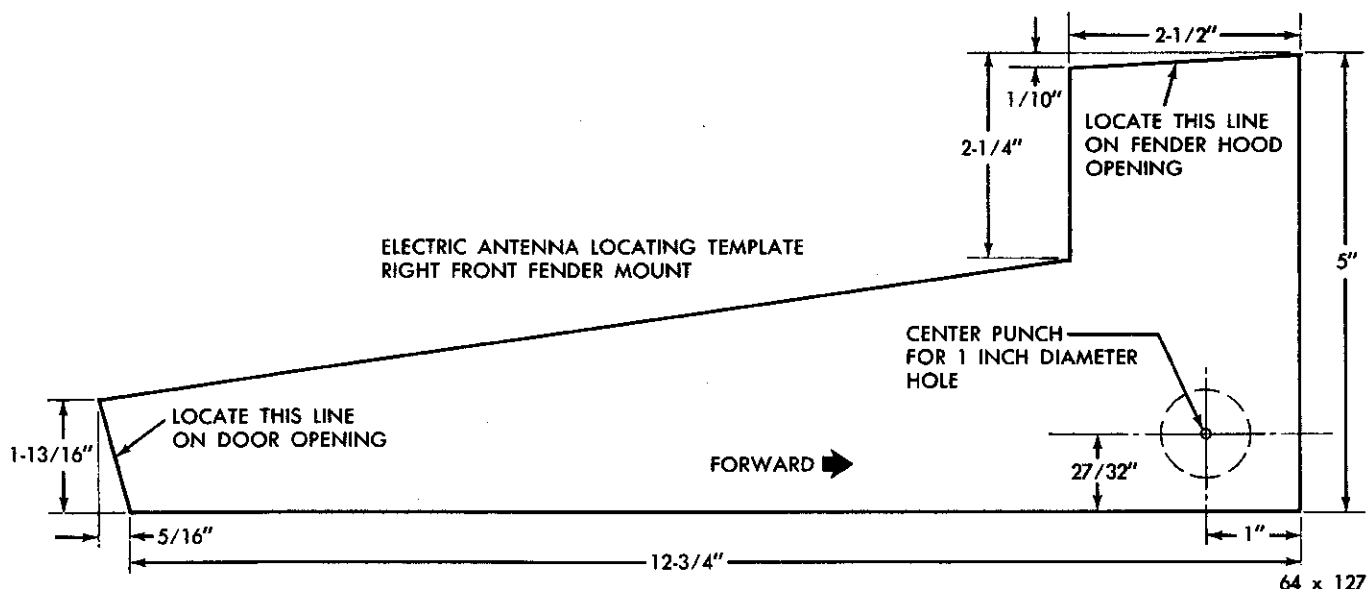

Fig. 2—Antenna Location (Imperial)
(1) On the front fender antenna equipped models (Figs. 2 and 3) unplug the antenna lead-in wire from the radio set at instrument panel. On rear mounted antennas, unplug the antenna short lead from the extension cable at the "Y" connector located in the trunk compartment.
(2) Lower the antenna.
(3) Remove the plastic cap and nut attaching the antenna to the rear wheel housing.
(4) Remove the nut, plastic adapter, gasket and ground collar.
(5) Remove the antenna assembly.